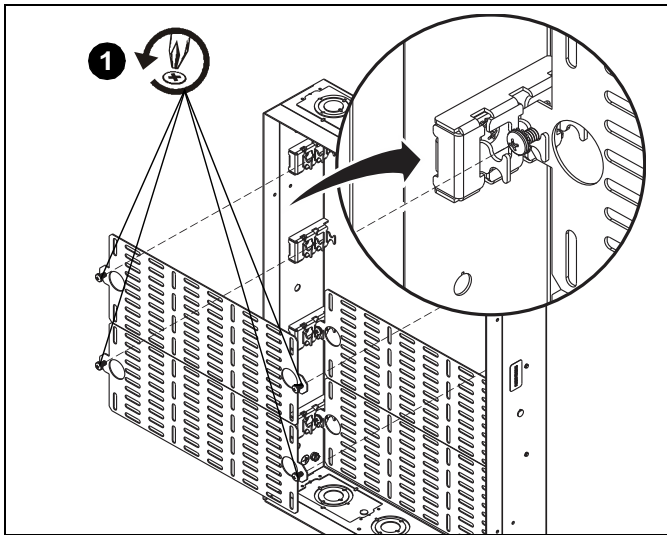

Figure 10
1. **FOR BACKPLANES SHIPPED IN PAC527 BOXES ONLY:** Loosen screws (leaving them in the backplanes) holding the backplanes in the PAC527 box, and remove backplanes from box. (See Figure 10)